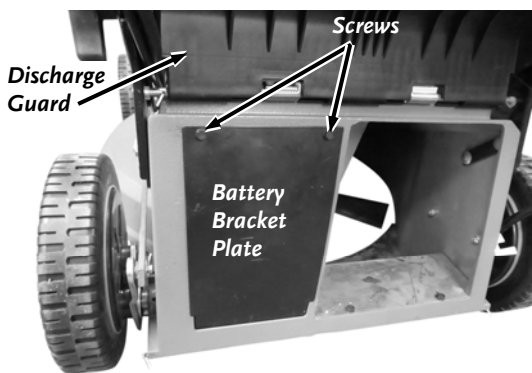

Figure 41
2. Lift and support the Discharge Guard (**Figure 41**).